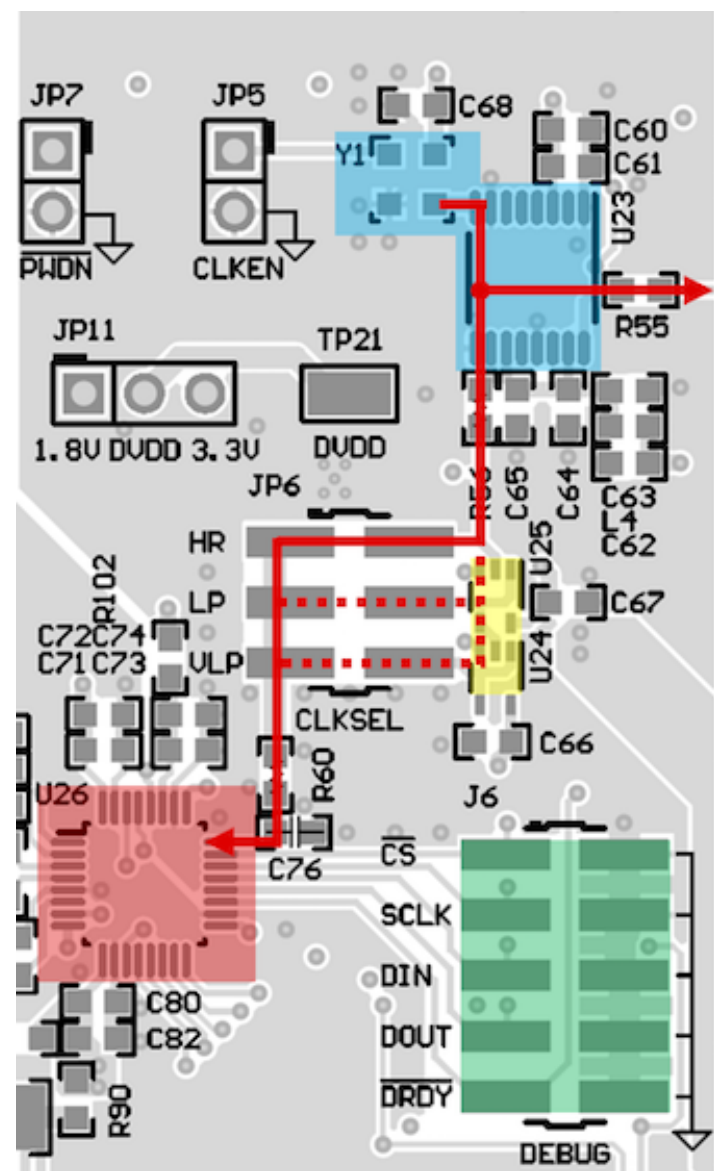

Figure 5. Example clock layout
When designing the PCB layout for your clock source, take care to keep the clock signal as clean as possible. Although it is considered a digital input, treat the clock signal as if it were another important analog signal. Minimize trace impedances, route traces away from Serial Peripheral Interface (SPI) signals and other noisy circuitry, and consider including PCB footprints for a series resistor and shunt capacitor to help handle reflections or overshoot. Figure 5 shows an example clock layout from the ADS127L01EVM.
The red line in Figure 5 traces the clock path from the source to the ADC (U26, highlighted in red). The clock path begins with the clock source (Y1), which is then fed into a clock fan-out buffer (U23). Both of these components are highlighted in blue in the top right corner of Figure 5. The clock fan-out buffer generates two identical copies of the original input clock frequency: one to drive the ADC and another to drive a microcontroller (through R55).
To go to the ADC, the clock signal continues on through a small 43- Ω resistor (R56) in series with the clock buffer output to help dampen reflections. The clock signal then connects to a jumper (JP6) that selects one of three different ADC clock frequencies. The other two clock frequencies are produced by two D flip-flops (U24 and U25, highlighted in yellow in Figure 5). These components divide down the clock buffer output to produce the clock for the other two modes: “low power” (LP) mode and “very low power” (VLP) mode. All three mode choices are also synchronous to the original clock source. In Figure 5, the solid red line passes through the “high resolution” (HR) mode selection.
If the clock signal at the ADC clock input pin shows excessive overshoot and ringing, you may need to slew the clock edges further by adding or increasing the size of the small series resistor and shunt capacitor (R60 and C76 in Figure 5, respectively). Adding these components effectively applies a low-pass filter to the clock input while preserving the fundamental clock frequency.